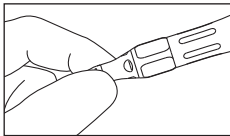

Fig. 4
- 3) After the handpiece rotation has completely stopped, touch the handpiece head and Bur Lock Ring to confirm they are NOT heating abnormally (Fig. 4).